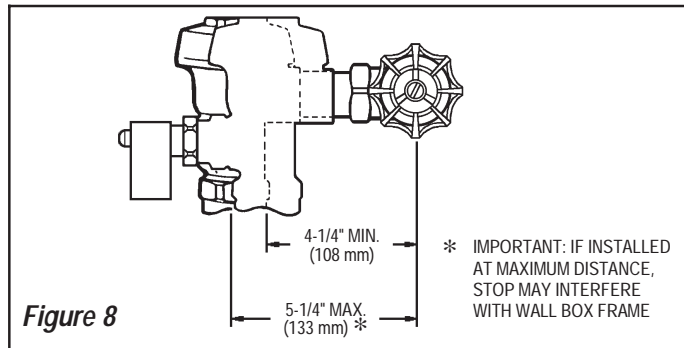

Figure 8
Step 7 — Install Flushometer SLOAN ADJUSTABLE TAILPIECE (Figure 8)